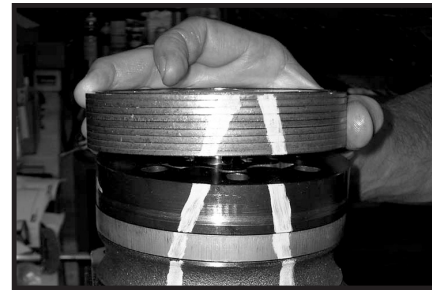

Figure 47
14. Assemble the manifold (7) over the drive link (10) and onto the rotor set. Be sure the correct manifold surface is against the rotor set. SEE FIGURE 47.